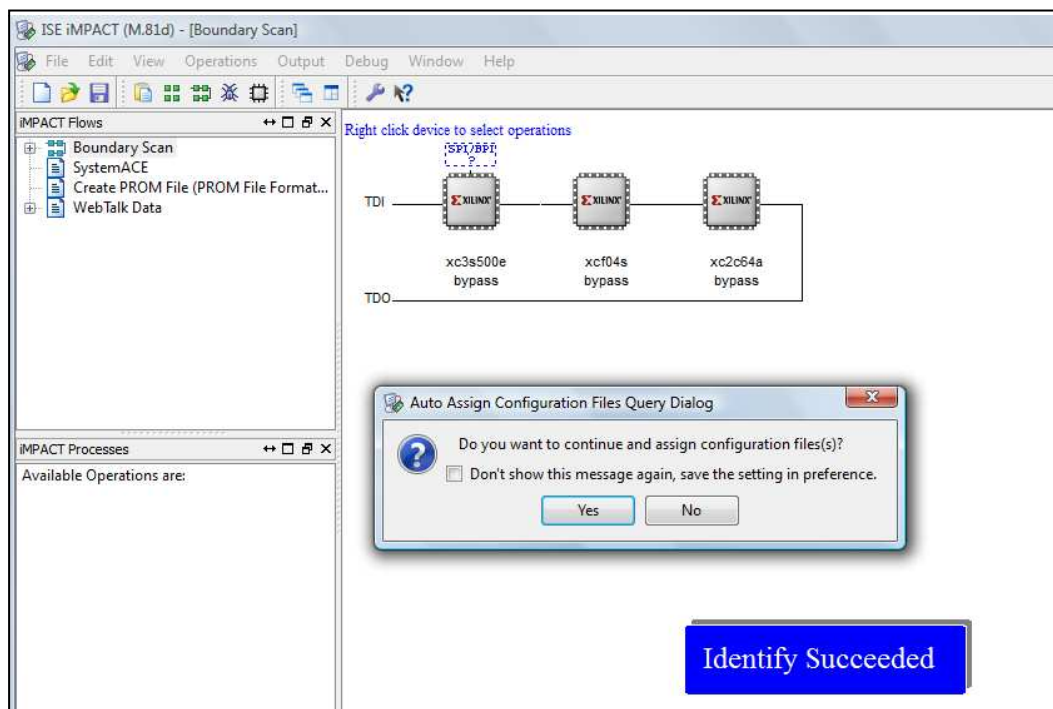

Figure 6.52: iMPACT window, assign configuration files.
- After a while, a picture of a “chain” should appear, along with the message **Identify Succeeded** in a blue box (Figure 6.52). The first chip, the **xc3s500e**, is the FPGA chip that we wish to program. The other two, **xc404s** and **xc2c64a**, are other chips on the board that will be bypassed.
A dialog box, asking “Do you wish to continue and select configuration file(s)?” will appear, as shown in Figure 6.52. Click **Yes**.